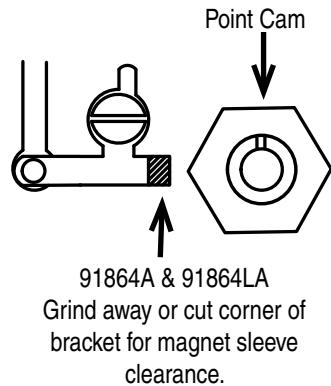

Figure 1
- The Ignitor does not require any modification to the distributor. Therefore the point, condenser and hardware can be used as backup. **Note:** 91864A & 91864LA require a minor modification. See Figure 1.
Note: Part numbers 91864A & 91864LA modification required. (See Figure 1).